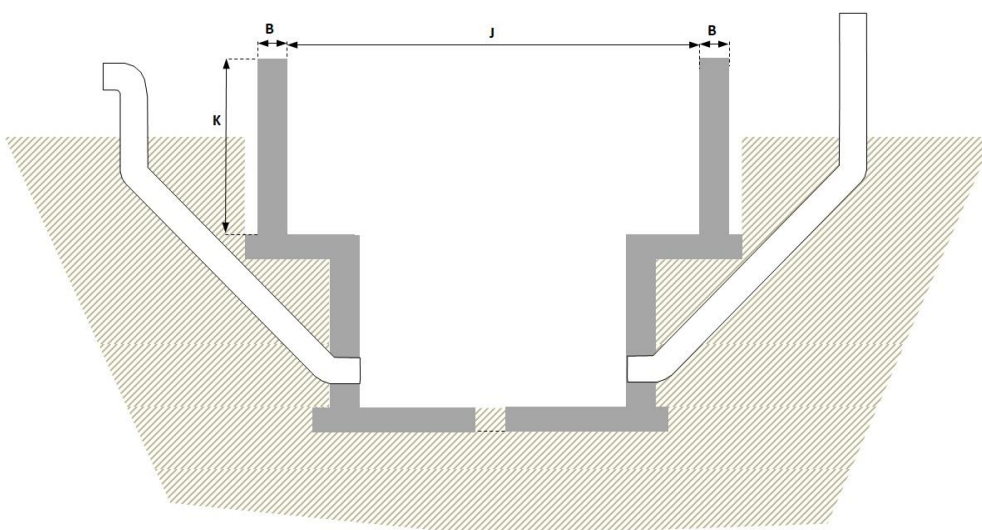

Figure 11 Masonry (3)
3. After the concrete ring has hardened, the outer wall can be constructed (see Figure 11) up to the highest level of the digester wall. The precision of this wall is less critical but a spacer and the central pole should be used nevertheless. When the masonry is strong enough, the wall can be plastered, on the inside and the aboveground part of the outside.